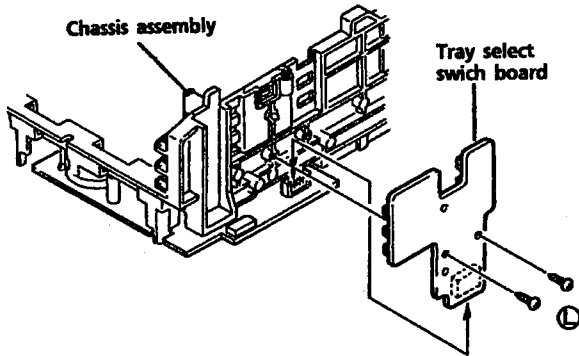

Fig. 33
5. Remove 2 screws ③ securing the tray select switch board. (See Fig. 33.)